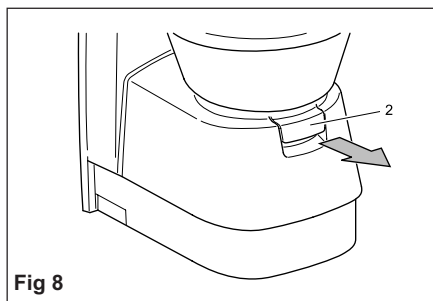

Fig 8
2. Open the blade (fig 8, 2) and flush the toilet after usage.